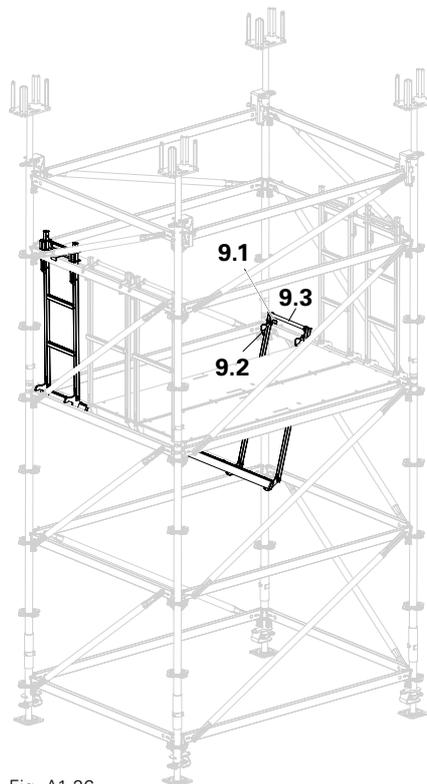

Fig. A1.26
- When moving the decking downwards begin with the red side. (Fig. A1.26)
2. 2. Attach both hooks (9.1) to the bottom Ledger (2a). (Fig. A1.26)